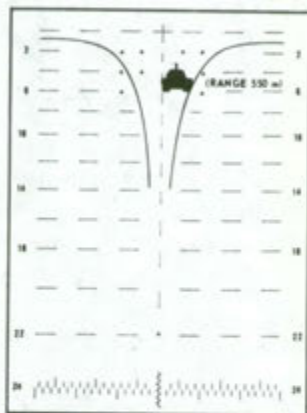

Figure 2.
- (2) Tank is firing directly toward or away from the gun position (figure 2).